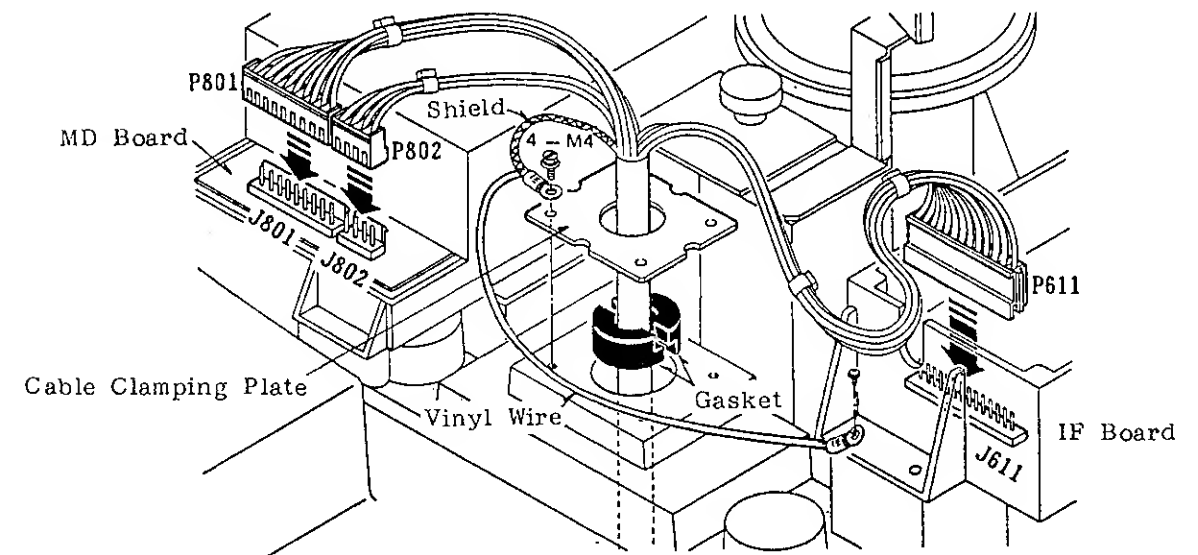

Fig.6-6 Cable Connection and Grounding
6. Remove the cable clamping plate by loosening four M4 screws and two gaskets at the radome base. See Fig.6-6.
8. Secure the cable with the cable clamping plate and gaskets. Ground the shield and vinyl cables by using one of the fixing screws for the cable clamping plate and for the IF amp. chassis. See Fig.6-6.
9. Mate the two plugs (9 and 4 ways) to the MD board. Remove the lid of the IF board and mate the plug (14 ways), referring to Fig.6-6. Take care not to pinch the wire when putting the lid back.